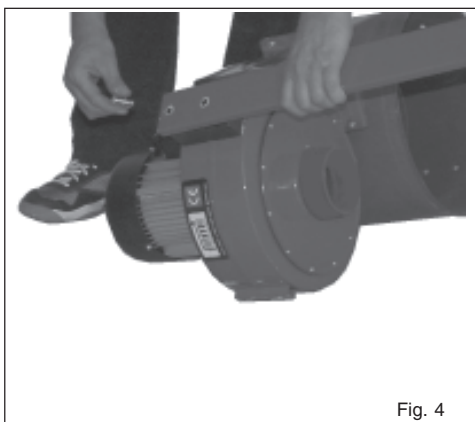

Fig. 4
3. Secure the two supports of the manifold with supports onto the motor assembly using the screws, the washers and the corresponding nuts (**Fig. 4**).